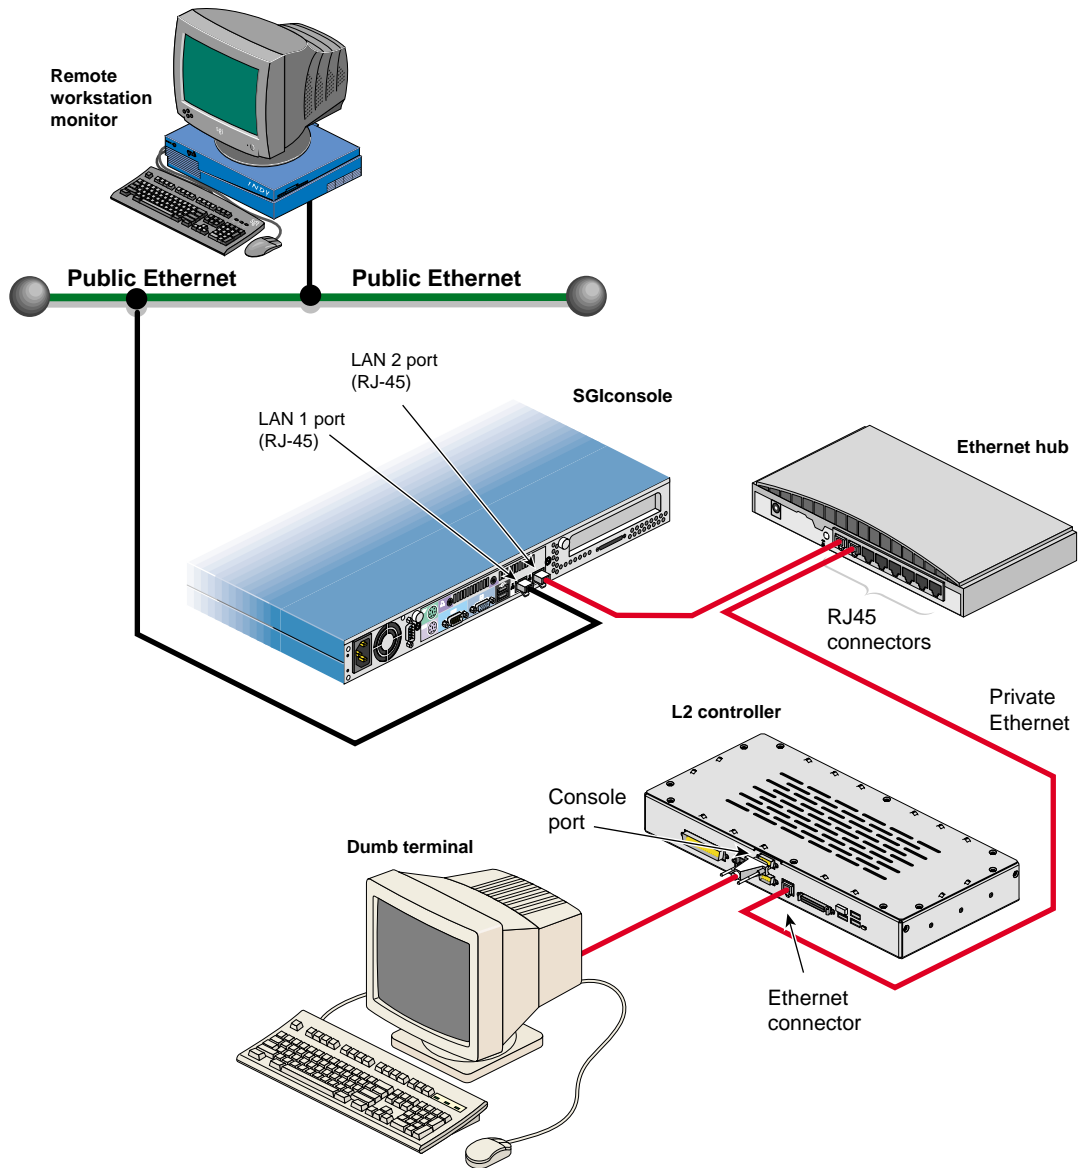

Figure 1-13 Console Connection Options for Servers with L2 Controllers
- If your server has an L2 controller, you can connect the SGIconsole to the Ethernet port on the L2 controller. If you have multiple L2 controllers, connect the SGIconsole to the Ethernet hub that is connected to the Ethernet port of the multiple L2 controllers. You will need to connect either a local or remote workstation to monitor the servers as shown in Figure 1-13.